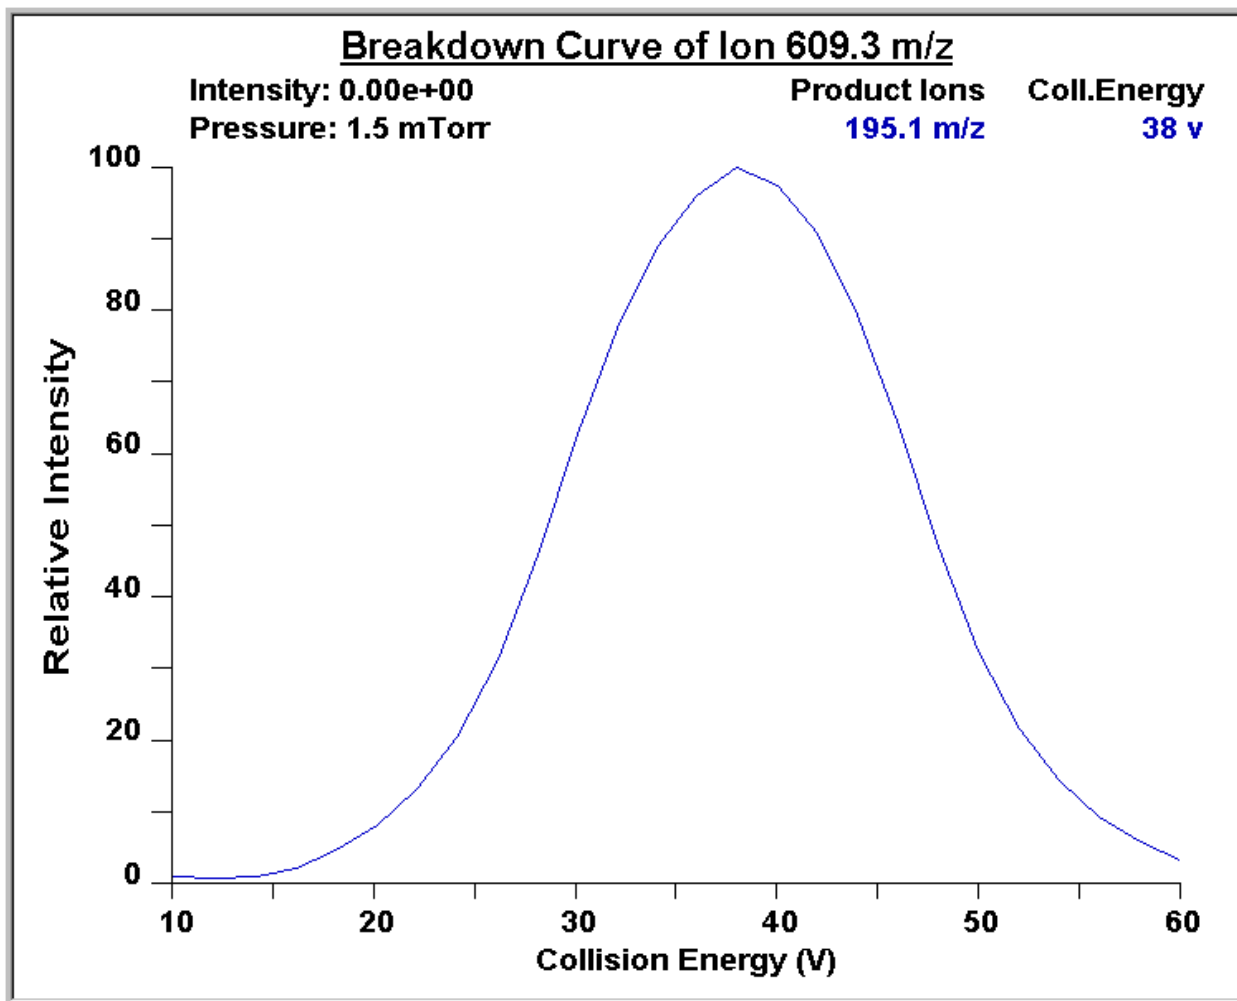

Figure 7-12. Breakdown curve of reserpine showing the relative intensity of the product ion at m/z 195.066 as a function of collision energy
- If the compound optimization procedure finishes without errors and the breakdown curve of the 195.066 fragment is Gaussian-shaped (as in Figure 7-12) or is a smooth, positive-sloped curve, go to step 5.